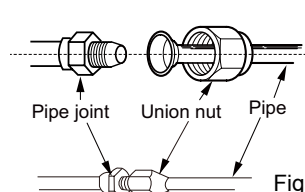
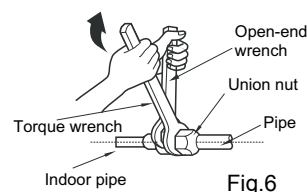

Fig.5
Fig.6
- (1) Aim the pipe joint at the corresponding bellmouth.(As show in Fig.5)
- (2) Pretightening the union nut with hand.
- (3) Adjust the torque force by referring to the following sheet. Place the open-end wrench on the pipe joint and place the torque wrench on the union nut. Tighten the union nut with torque wrench.(As show in Fig.6)